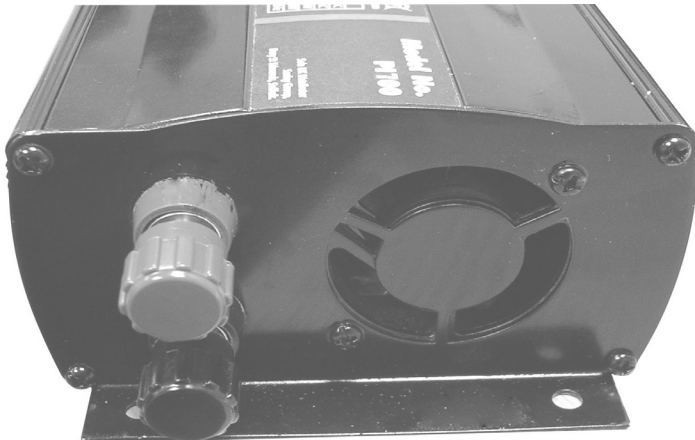

Fig.1
- 3.2.1 To attach the battery clips remove the terminal caps from the rear of the inverter (Fig.1).